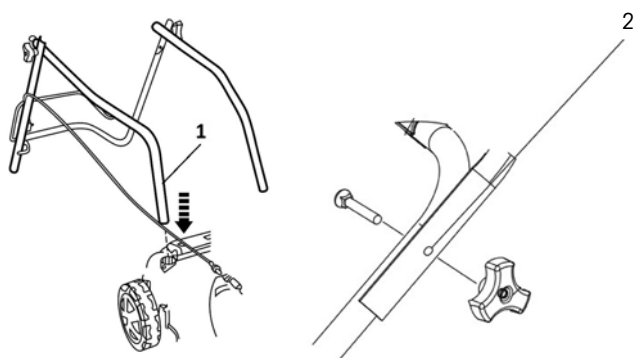

Fig. 2
1. Insert the bottom part of the handle (Fig. 2 – point 1) into the respective hole on the lawnmower (see arrow) and secure in place with the 2 included screws – one screw with a washer on each side of the handle.
2. Attach the top part of the handle to the bottom part of the handle using the included screws with wing nuts (Fig.2 – point 2).